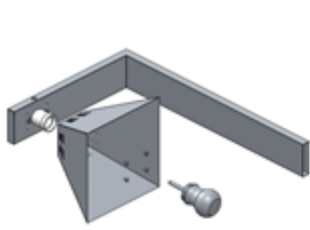

Fig.1
2. Assemble the Bulb cover(s) onto the Bulb frame by Phillips head screws [ Fig 1 ]